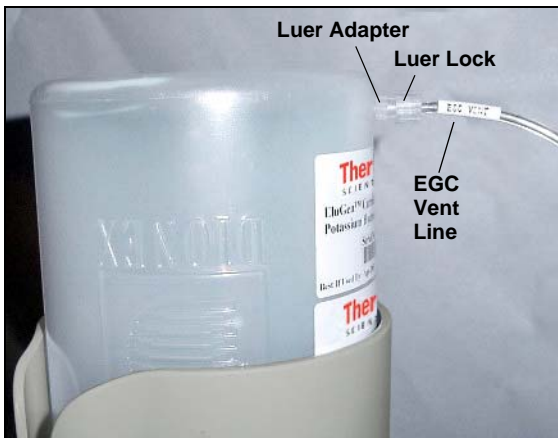

Figure 5-35. Dionex EluGen Cartridge Vent Line and Luer Fitting
4. Remove the EGC VENT line (see Figure 5-35) from the Dionex EluGen cartridge by unscrewing the luer lock from the luer adapter.